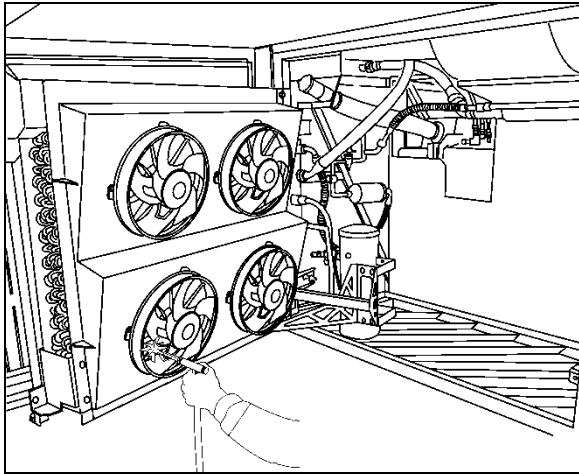

FIGURE 7: CLEANING PASSENGER'S UNIT CONDENSER COIL WITH LOW-PRESSURE AIR JET 22362
**Once a year**, clean the condenser with low-pressure air jet or a stream of low-pressure water, taking care not to damage fins (Figure 7).